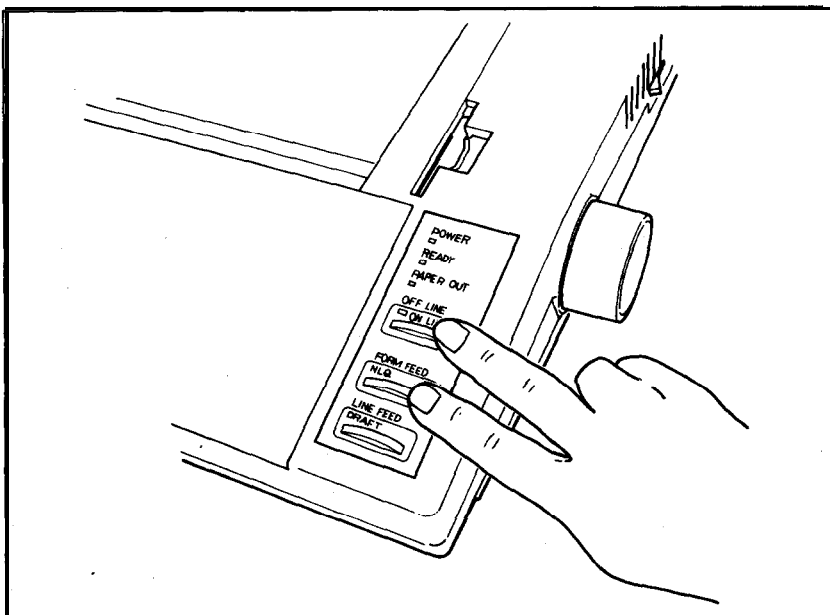

Figure 2-1. Turning SelecType on
2. Press both the OFF LINE and FORM FEED buttons at the same time, as illustrated in Figure 2-1. Hold them down for at least a second, then release them.